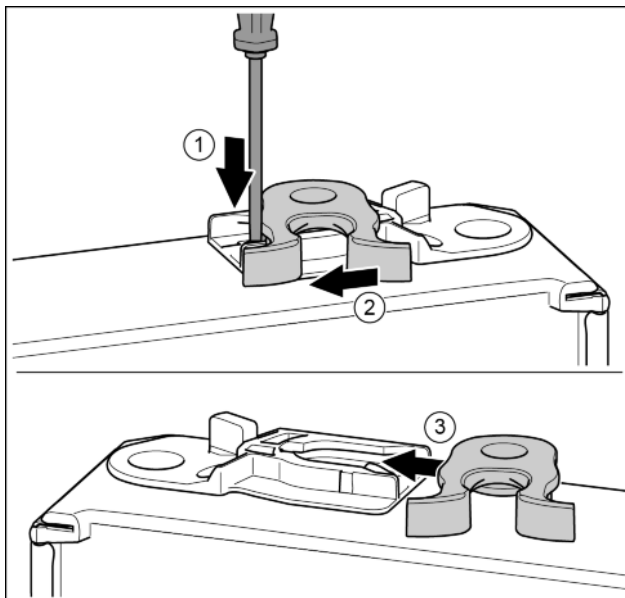

Fig. 15
- ▶ Push the tab downwards with a slotted screwdriver. Fig. 15 (1)
- ▶ Pull the door latch out of the guide. Fig. 15 (2)
- ▶ Push the door latch into the guide on the other side. Fig. 15 (3)